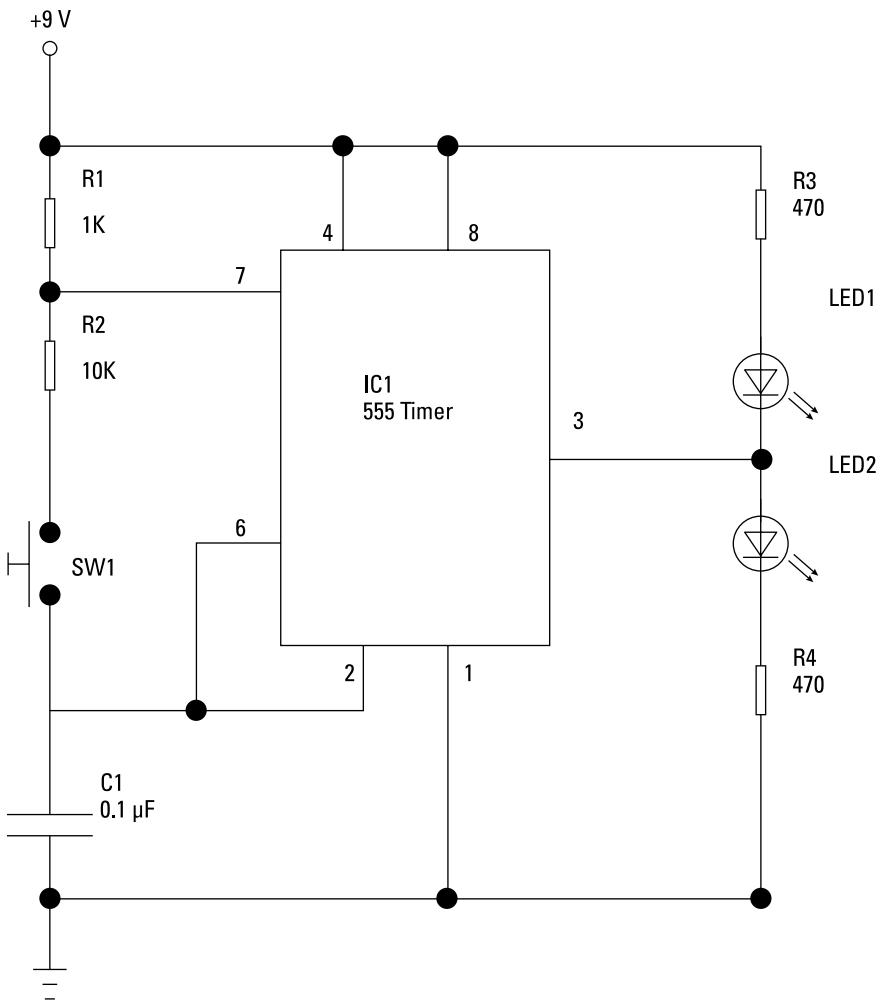

Figure 6-3:
The coin-toss project is much simpler than the jack-in-the-box project. In fact, a quick Google search turns up several possible circuits that do almost exactly what the coin-toss project requires. For example, Figure 6-3 shows the schematic diagram for a typical coin-toss circuit you can find on the Internet. This circuit diagram uses a 555 timer integrated circuit (IC), four resistors, two LEDs, one capacitor, a switch and a 9 V power supply (most likely a 9 V battery).
You may have noticed that the schematic diagram shown in Figure 6-3 differs from this project's needs in just two ways: it doesn't have an on/off switch and it uses a pushbutton instead of the user's fingers to start and stop the LEDs from flashing.